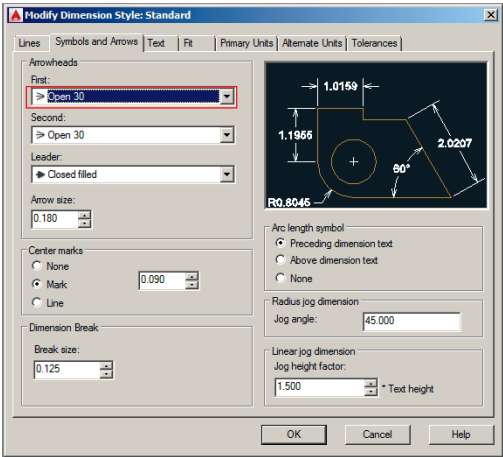

FIGURE 11.5 Changing arrowheads in the Standard dimension style
4. Select the Symbols And Arrows tab. In the Arrowheads section, choose Open 30 from the First drop-down (see Figure 11.5). The Second drop-down automatically matches the first by default, so it now says Open 30 as well.